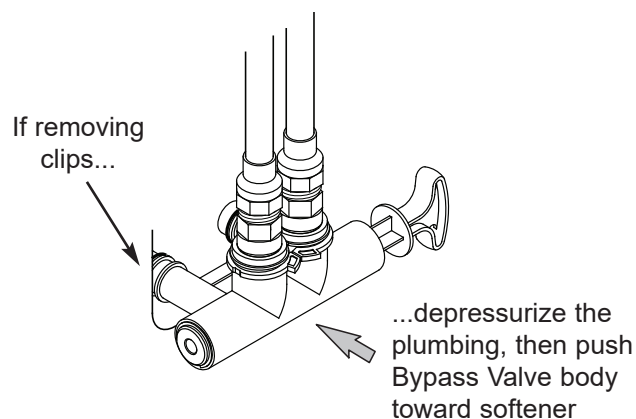

FIG. 14
7. Check for leaks around clips at softener’s inlet and outlet. If a leak occurs at a clip, depressurize the plumbing (turn off the water supply and open faucets) before removing clip. When removing clips at the softener’s inlet or outlet, push the single bypass valve body toward the softener (see Figure 14). Improper removal may damage clips. Do not reinstall damaged clips.